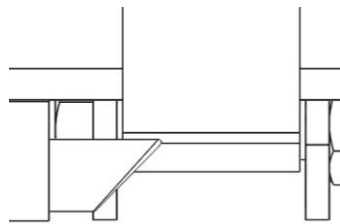

Figure 30
- ➡ **ATTENTION! When raising the safety side rails always check that the two locking mechanisms properly set into place (Figure 30), otherwise the rail may open under load.**